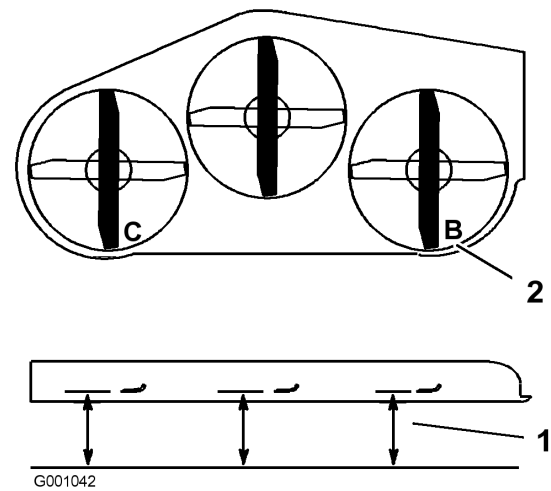

Figure 60
1. Position the right blade front-to-rear (Figure 60).
2. Measure the right blade at the **B** location, from a level surface to the cutting edge of the blade tip (Figure 60).
4. Position the left blade front-to-rear (Figure 60).
5. Measure the left blade at the **C** location (Figure 60), from a level surface to the cutting edge of the blade tip .